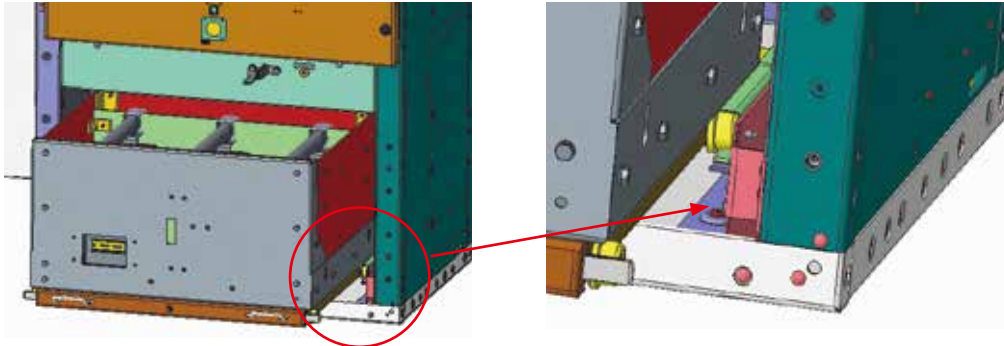

Figure 6.13: Take the front two wheels into the guide rail
- Take the front two wheels into the guide rail. (See figure 6.13).